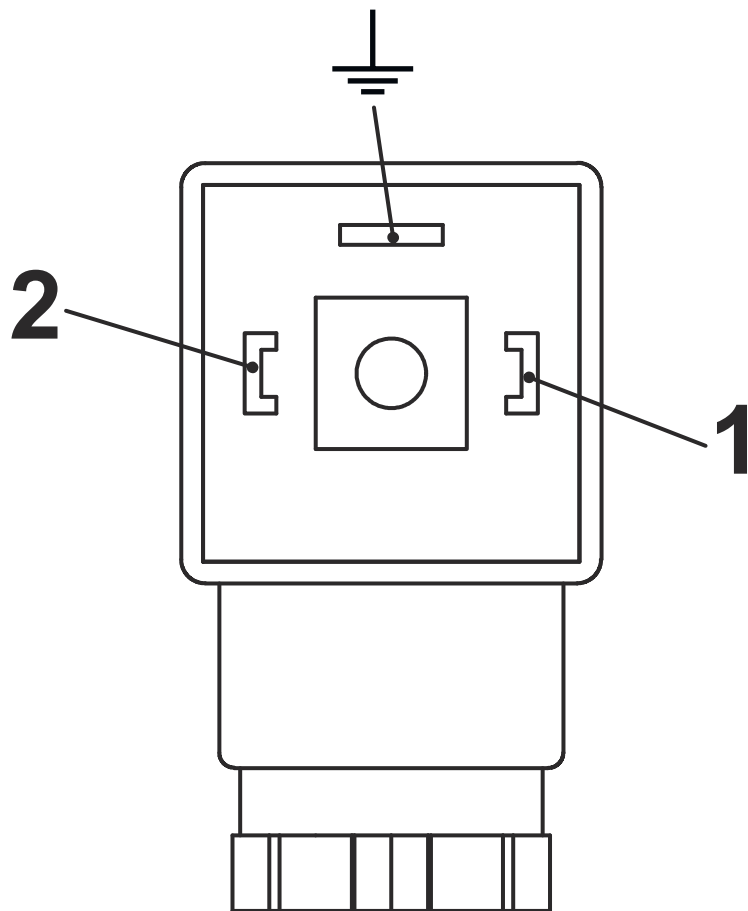
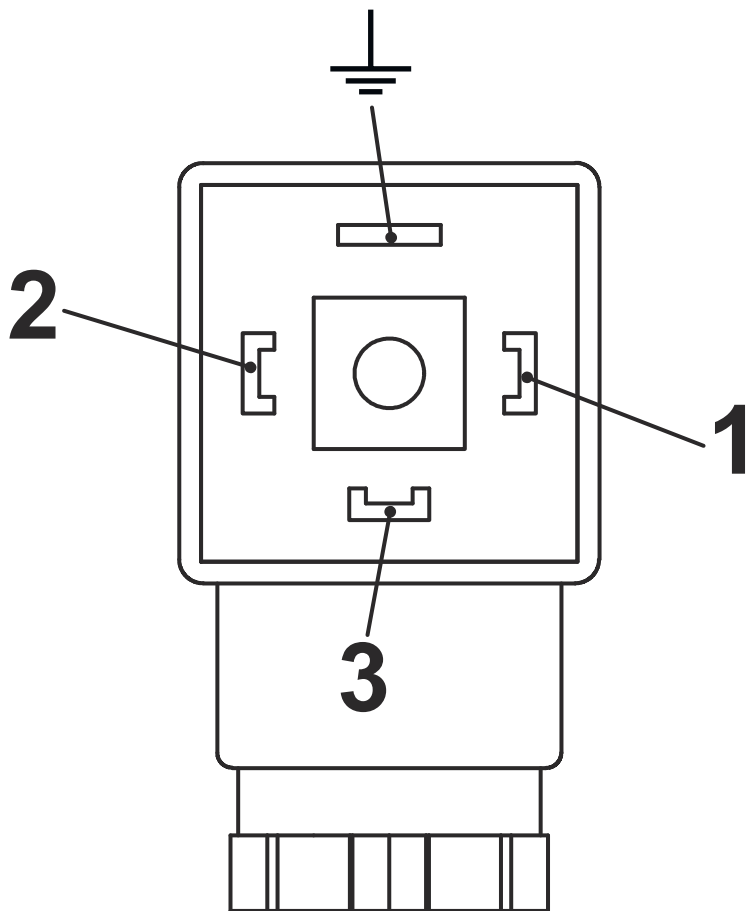

Fig. 24: Pin assignment, plug socket, normally-open contact (Form 15x50)
Fig. 25: Pin assignment, plug socket, change-over contact (Form 15x50)
- 6.** ➤ Make the connections as shown in the connection diagrams (*Fig. 24* und *Fig. 25*).